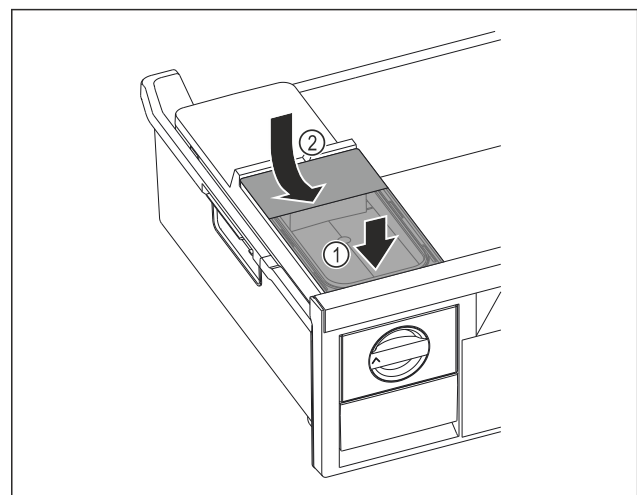

Fig. 142
- ▶ Position the water tank at the front. Fig. 142 (1)
- ▶ Lower the water tank at the rear. Fig. 142 (2)